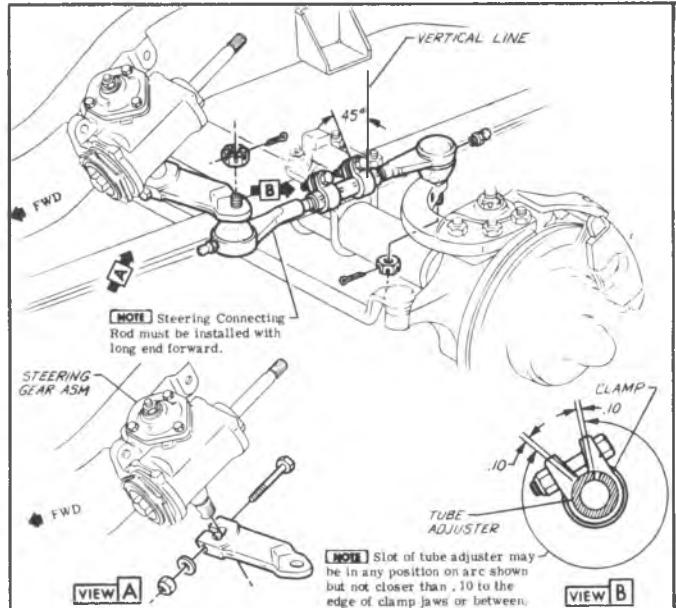

Fig. 104B—Adjustable Connecting Rod Assembly K Series
**NOTE:** For proper alignment and orientation of connecting rod clamps see figure 104B.